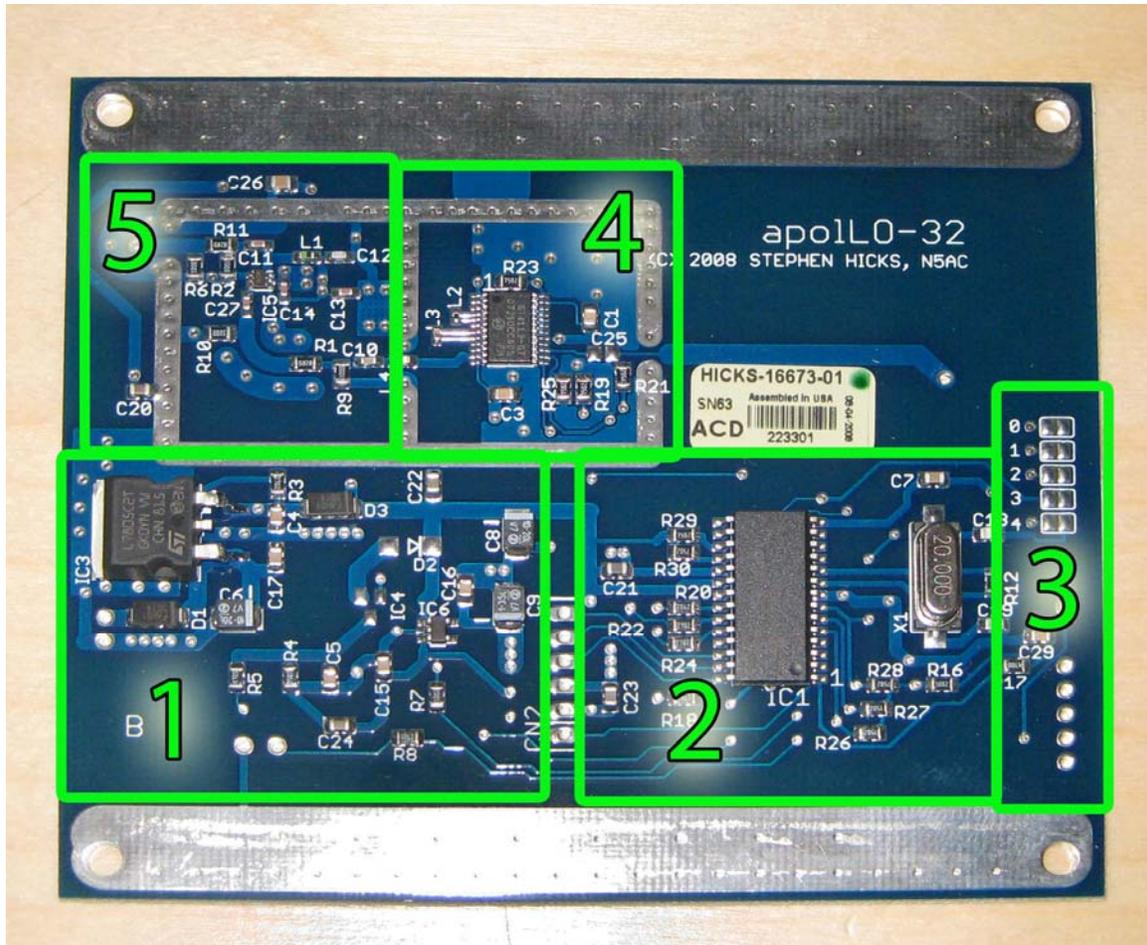

Figure 1, PCB Sections
ApolLO is a frequency synthesizer designed to operate in the 1.0—1.2GHz range for use as a local oscillator (LO). Whereas the apollo I's frequency is programmable via PC software and a USB port, apollo-32 is programmed via a set of solder jumpers or switches. The PCB consists of four main sections. The power supply (section #1 in Figure 1) produces supply voltages required by the board.
The second major section of the board is the microprocessor ( $\mu$ P) (section #2 in Figure 1). The microprocessor's main purpose is to read jumpers and switches to determine which frequency the LO should use and to program the synthesizer with this information.
The synthesizer (section #4 in *Figure 1*) uses two external inductances to set the operating range of the two internal RF synthesizers. For this design, the objective was to fashion a PCB that would cover 902.1 – 1296.1MHz. This range encompasses the required starting LO frequencies for each of the DEMI transverter designs as can be seen in the table below as well as a number of weak signal frequencies and frequencies required for other transverters:
Finally, the RF output of the Si41xx synthesizer can vary from -8dBm to +1dBm. Since most LO chains or mixers require a higher output level, an integrated RF amplifier is included on the board (section #5 in *Figure 1*). The ABA-54563 is a 20dB gain block with a P1dB of 16dBm. Sufficient padding is provided to isolate the synthesizer from the PA and the PA from the outside world (transverter). The output of the board has been pre-adjusted to +5dBm  $\pm$ 2dB.
The apollo-32 can be “programmed” using either solder jumpers, switches or both. In general, solder jumpers on the board shown as section #3 in *Figure 1* are used to program the frequency as shown in JUMPER SETTINGS. Once the jumper is soldered, the LO will always start on the programmed frequency.